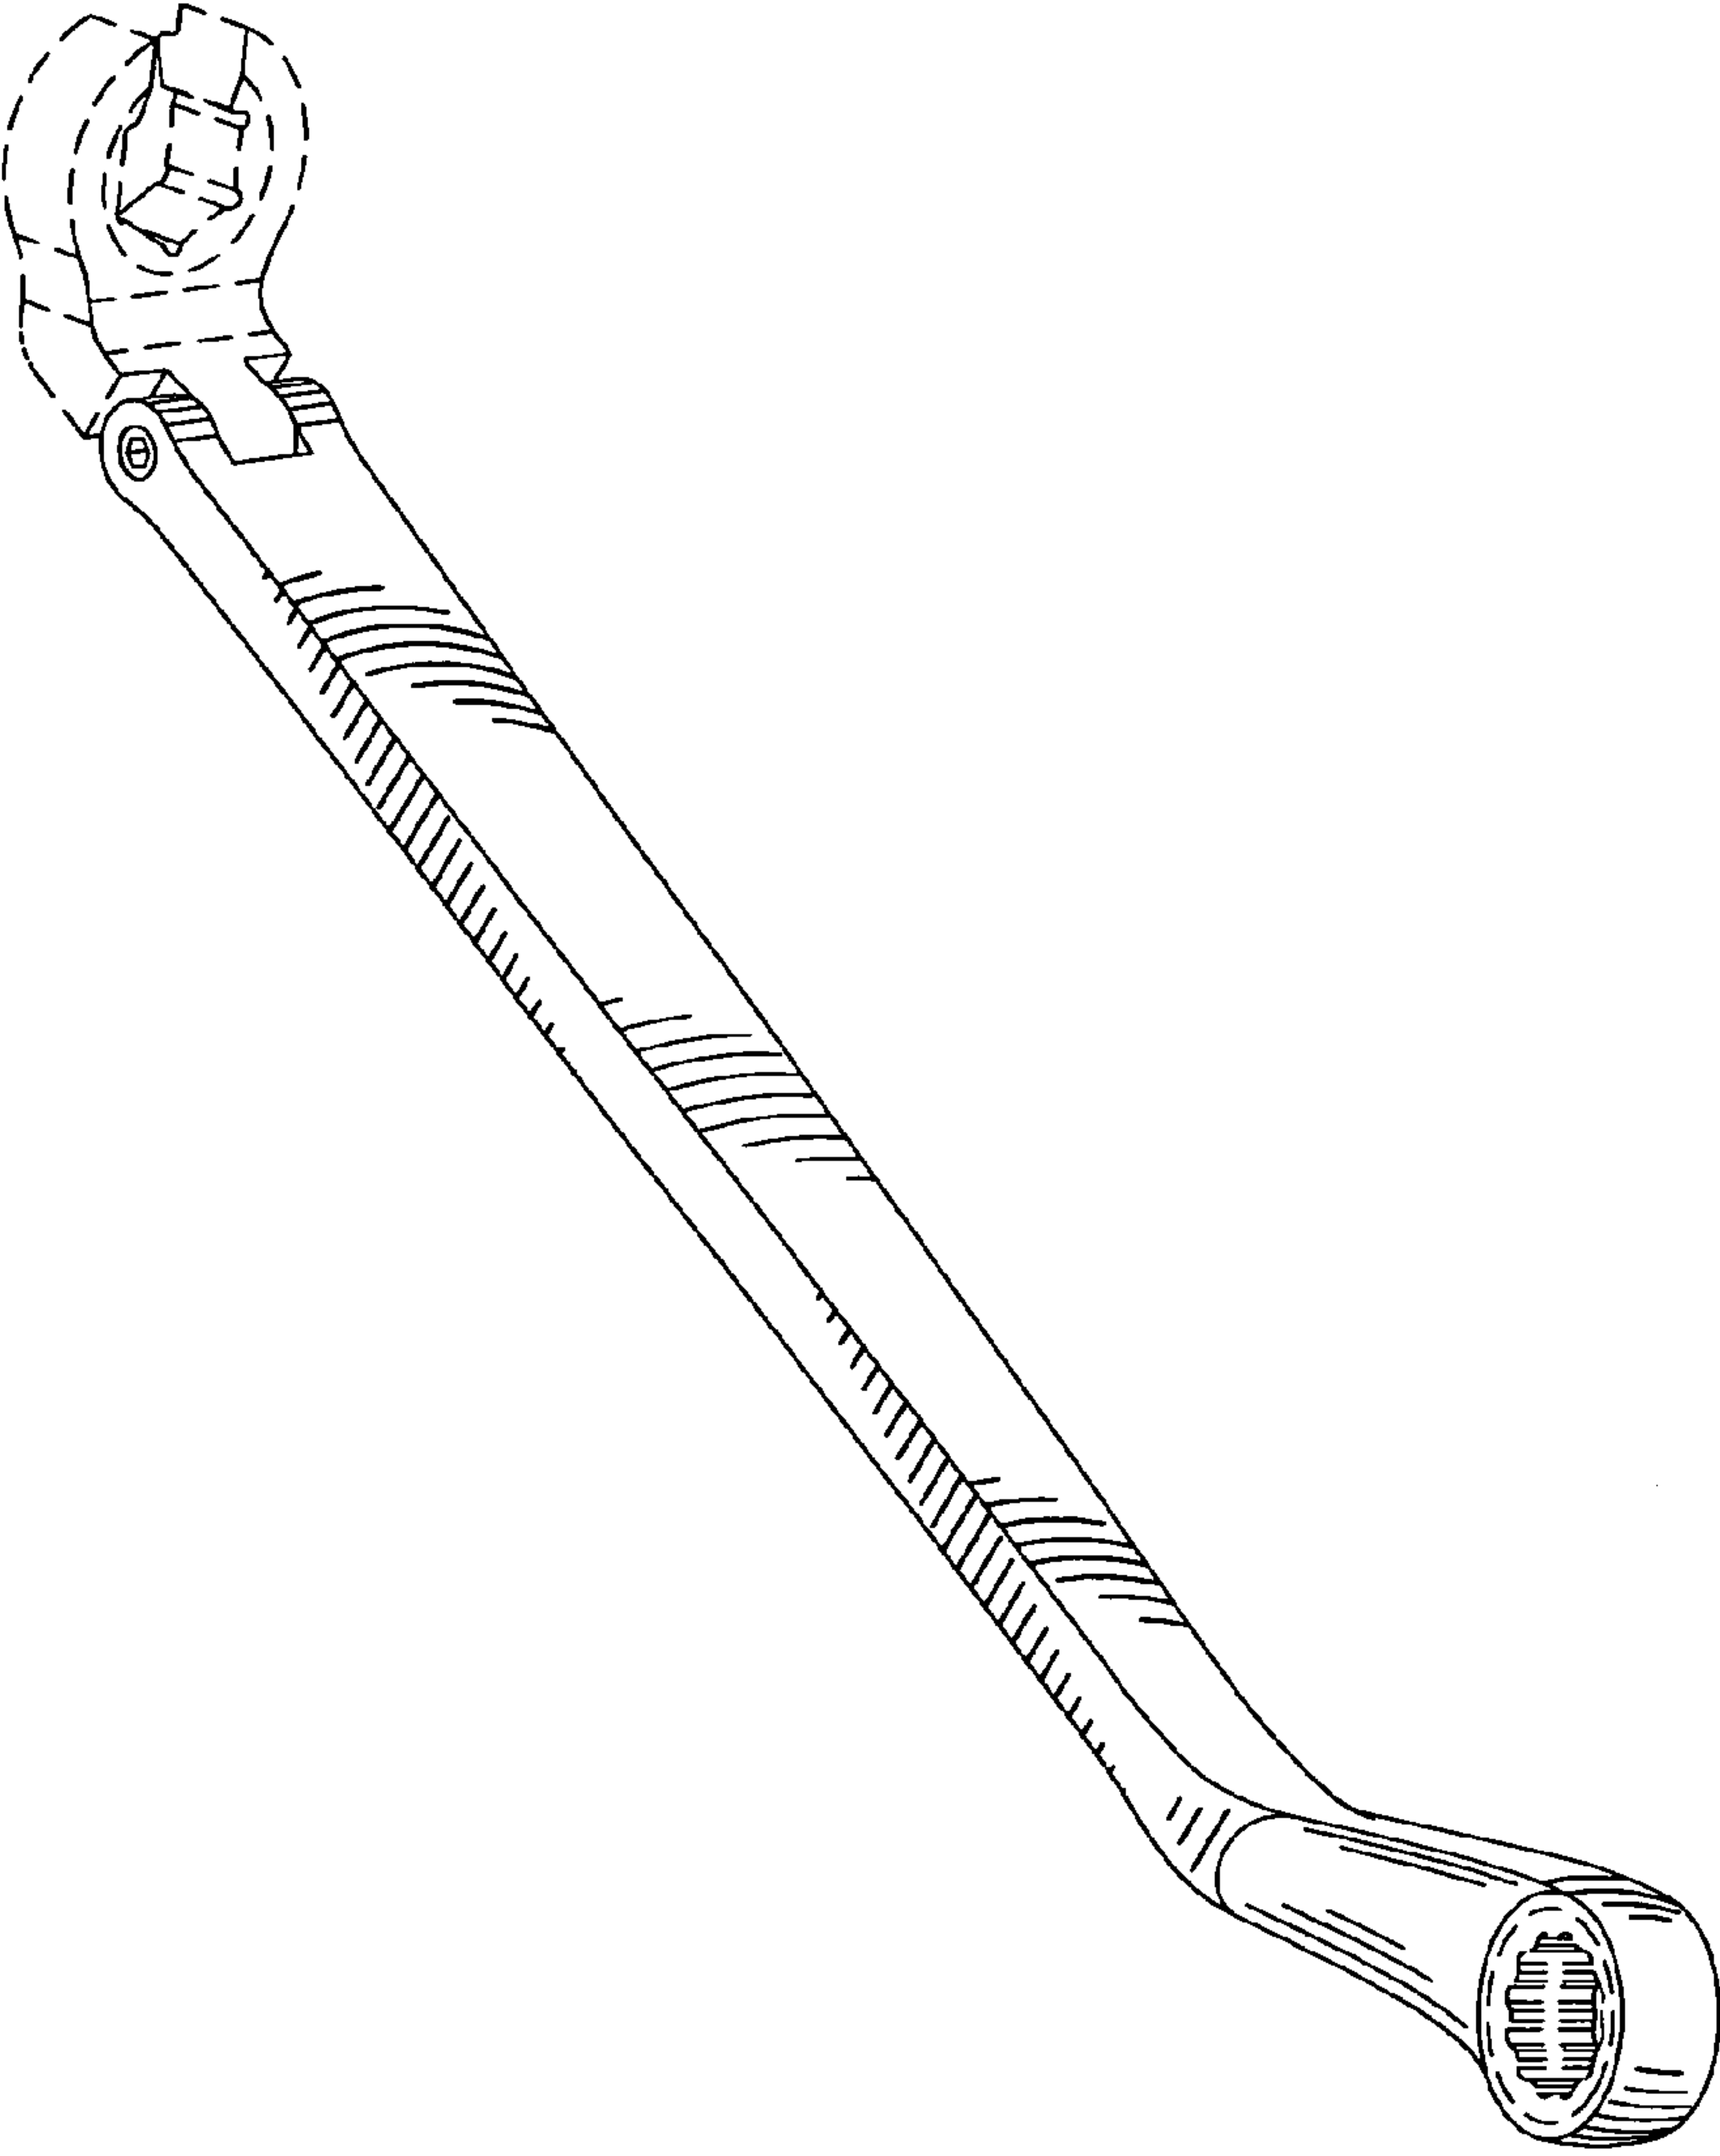

FIG 9
FIG. 9 is a perspective view (I) of the spanner in a position of use.